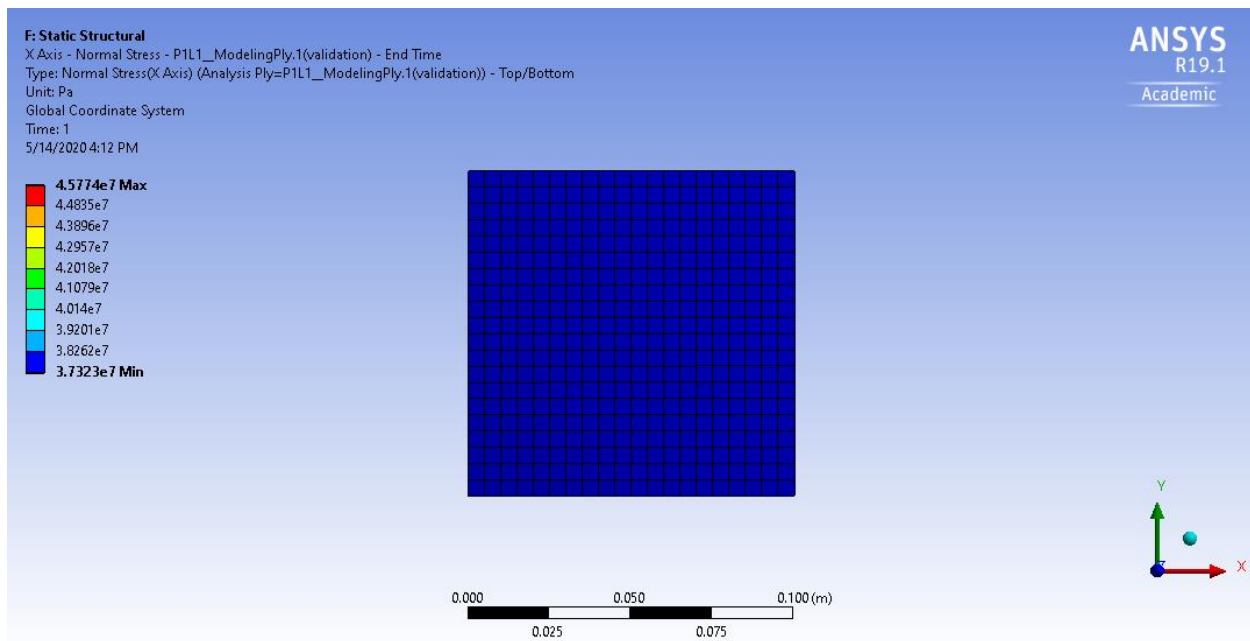

Figure 10. Capturing stress contour for the x direction of Ply 1.
81. Click Solve and you should have the result in Figure 10.